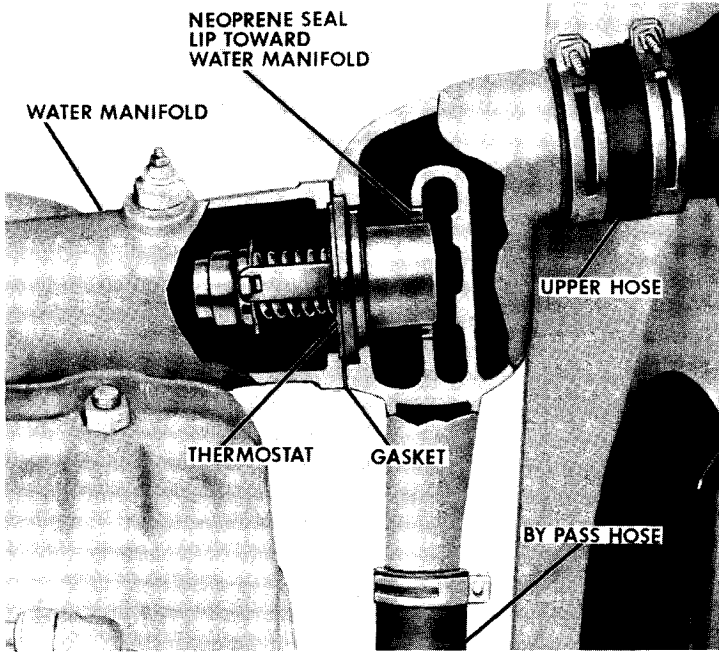

Figure 46
A thermostat and by-pass hose are located in the water manifold as shown in Figure 46. The thermostat blocks the coolant flow to the radiator when the coolant temperature is below its 180° Fahrenheit opening temperature. The coolant must then pass down through the by-pass hose and be recirculated through the engine until the heat of combustion warms it sufficiently to open the thermostat.
3. Remove the upper radiator hose and the by-pass hose; then remove the thermostat housing. The thermostat is located between the water manifold and the thermostat housing, Figure 46.
1. Install a new Genuine Case thermostat with rubber seal as indicated in Figure 46.